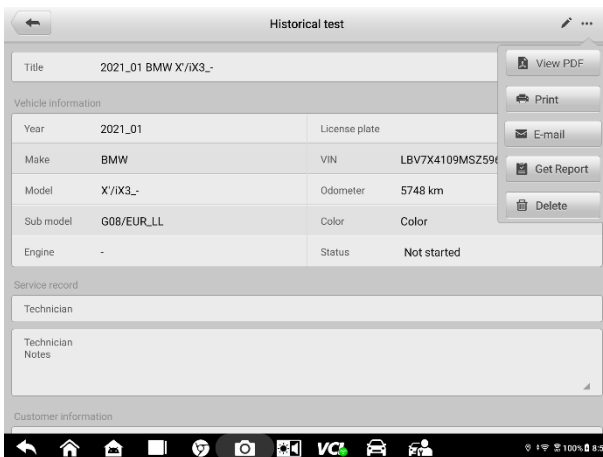

Figure 4-39 Historical Test Screen
- In the Historical Test Screen (see Figure 4-39), tap on the **Get Report** button to save reports.